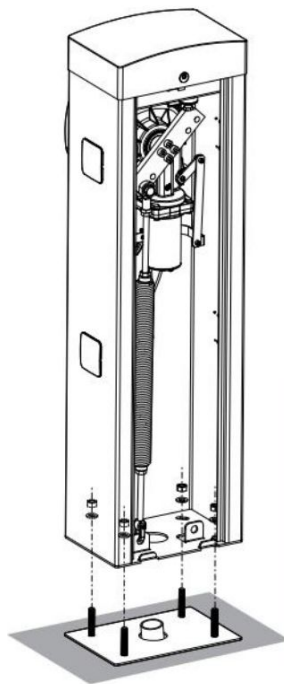

Figure 8.4
5. Unscrew the 4 nuts that hold the base joined to the anchoring brackets and position the rack on the plate (Figure 8.4)